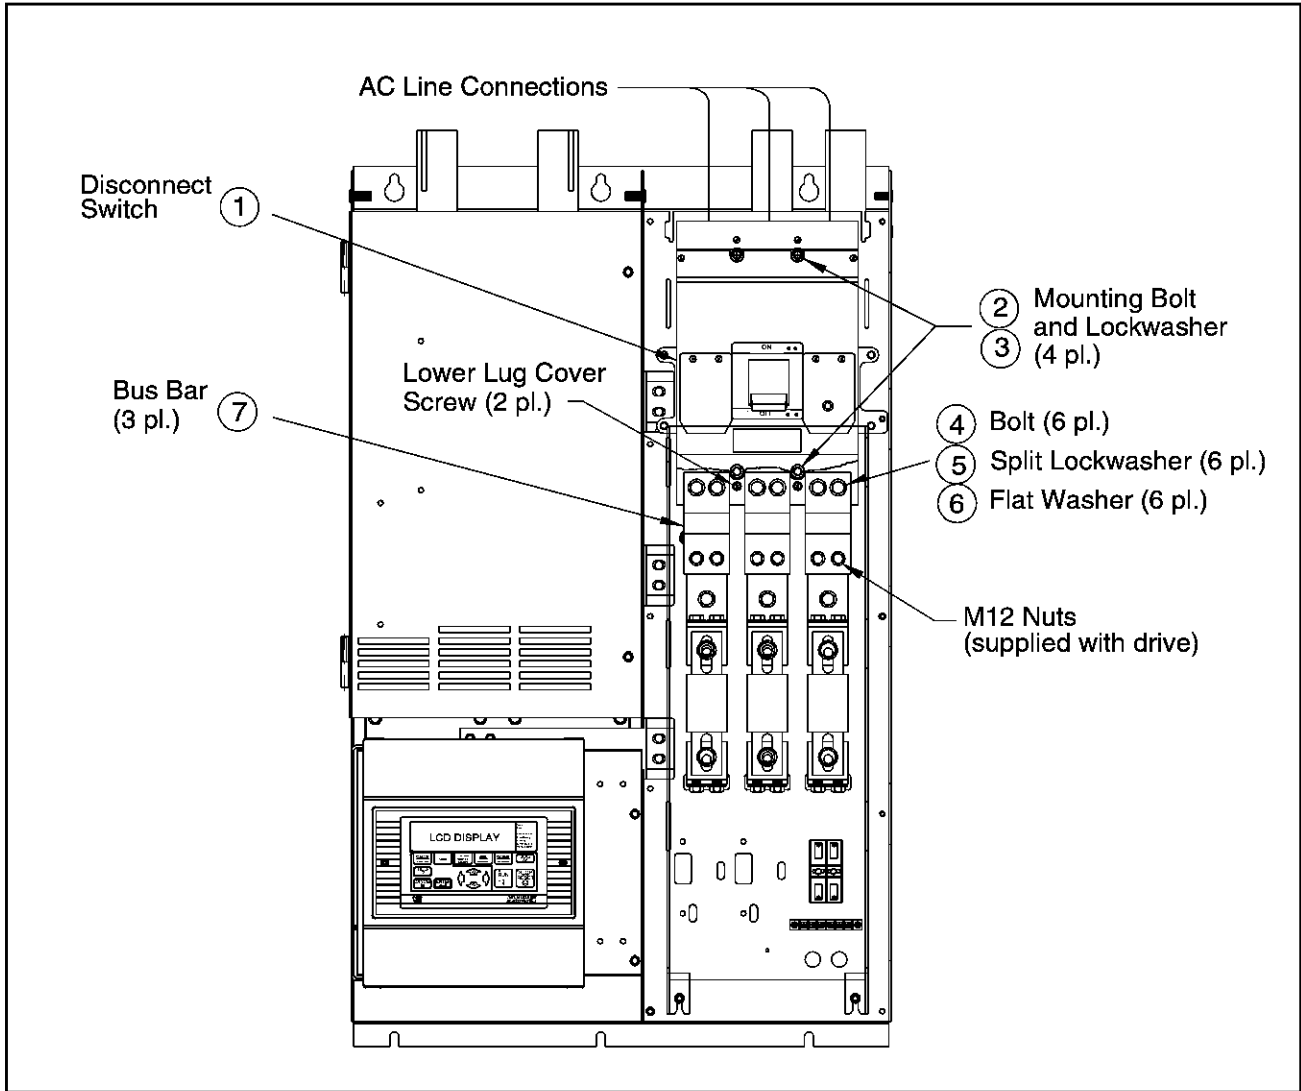

Figure 3 – Drive with an AC Disconnect
- Step 5. Remove AC line terminals, 181, 182, and 183 by removing the M12 nuts as shown in figure 3. Set these terminals and nuts aside for re-installation later.
- Step 6. If drive power has not already been installed, determine whether your wiring application calls for the existing compression terminals on the line side of the disconnect switch, or the AC line bus bar terminals removed in step 5. Each compression terminal can accept three (3) wires in the range from 3/0 to 500 MCM. Each AC line bus bar terminal can accept up to four (4) user-supplied 1/2-inch ID wire lugs.
- Step 17. Remove the disconnect's lower lug cover by loosening the two captive screws that hold it in place. See figure 3.
- Step 19. Attach one bus bar [Item 7] to the drive's right-side line fuse connector and to the disconnect's right-side load connector. Use two of the bolt, lockwasher, and flat washer assemblies from step 18 to attach the bus bar to the disconnect. See figure 3.
- Step 27. If you are using the AC line bus bar terminals (removed in step 5 from terminals 181, 182, and 183), connect them to the disconnect switch's line connections using items 4, 5, and 6. Tighten to 39 Nm (346 in-lb).
- Step 28. Connect (or re-connect) the incoming power cables removed in step 4 to the AC line terminals that you installed in the previous step. See figure 3 for the cable connection order.
- Step 30. If you are using the AC line compression terminals, connect the incoming power cables, using figure 3 for the correct cable connection order.